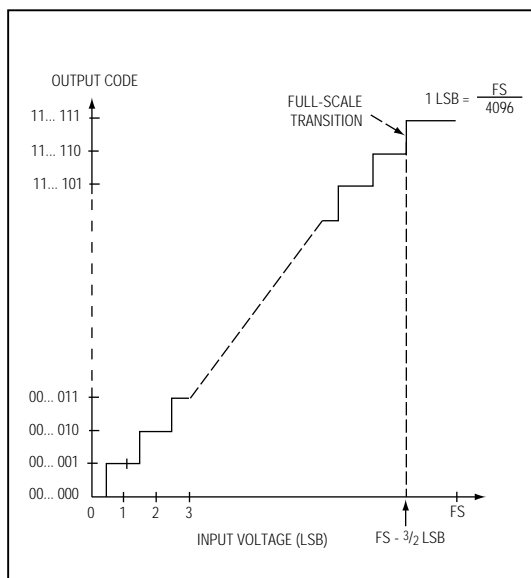

Figure 10. Unipolar Transfer Function
Output data coding for the MAX196/MAX198 is binary in unipolar mode with  $1\text{LSB} = (\text{FS} / 4096)$  and two's-complement binary in bipolar mode with  $1\text{LSB} = [(2 \times |\text{FS}|) / 4096]$ . Code transitions occur halfway between successive-integer LSB values. Figures 10 and 11 show the input/output (I/O) transfer functions for unipolar and bipolar operations, respectively. For full-scale (FS) values, refer to Table 1.